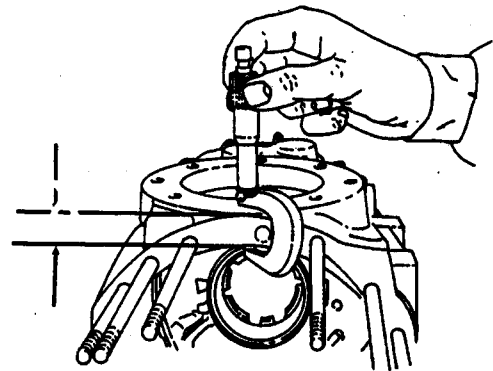

Figure 9.
- Measure and record dimension X (Figure 9), between the pinion housing mounting face of the center (differential) casing and the nearest point of the adjacent intermediate housing counterbore, for later use in setting pinion depth.